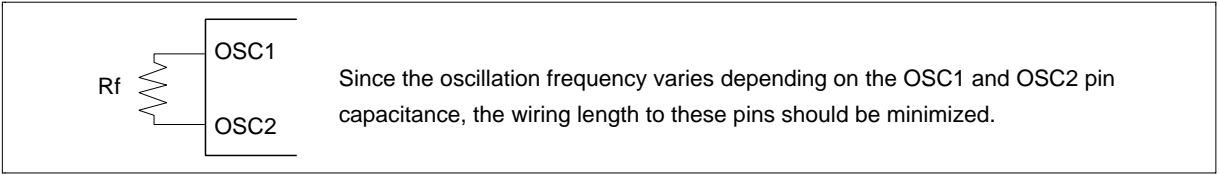

Figure 63 Internal Oscillation
10. Applies to the internal oscillator operations using external oscillation resistor Rf (figure 63 and table 40).